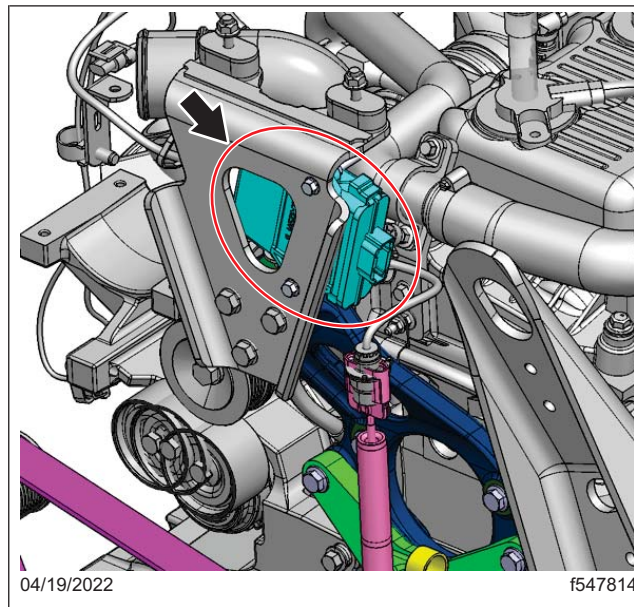

Fig. 6, Kysor Fan Control Module Location
3. Locate the Kysor fan control module on the mounting bracket on the front of the engine near the top. See Fig. 6